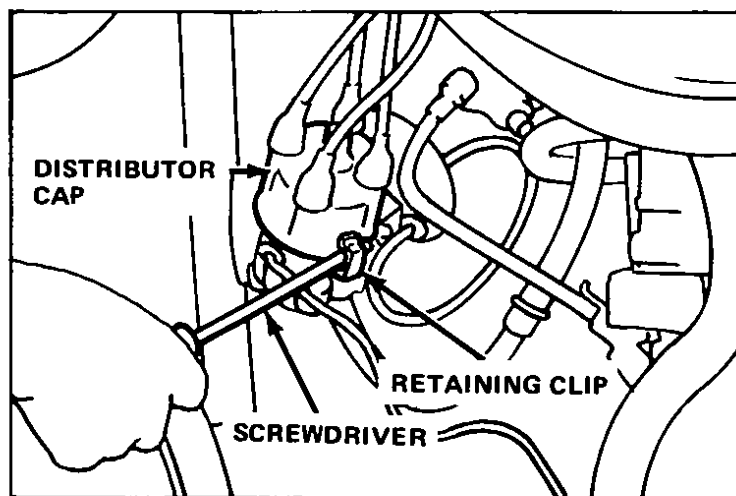

Fig 31 Removing distributor cap
- 2 Unfasten the distributor cap from the distributor. The cap is secured with bale clips which can be snapped open with a screwdriver, Fig 31